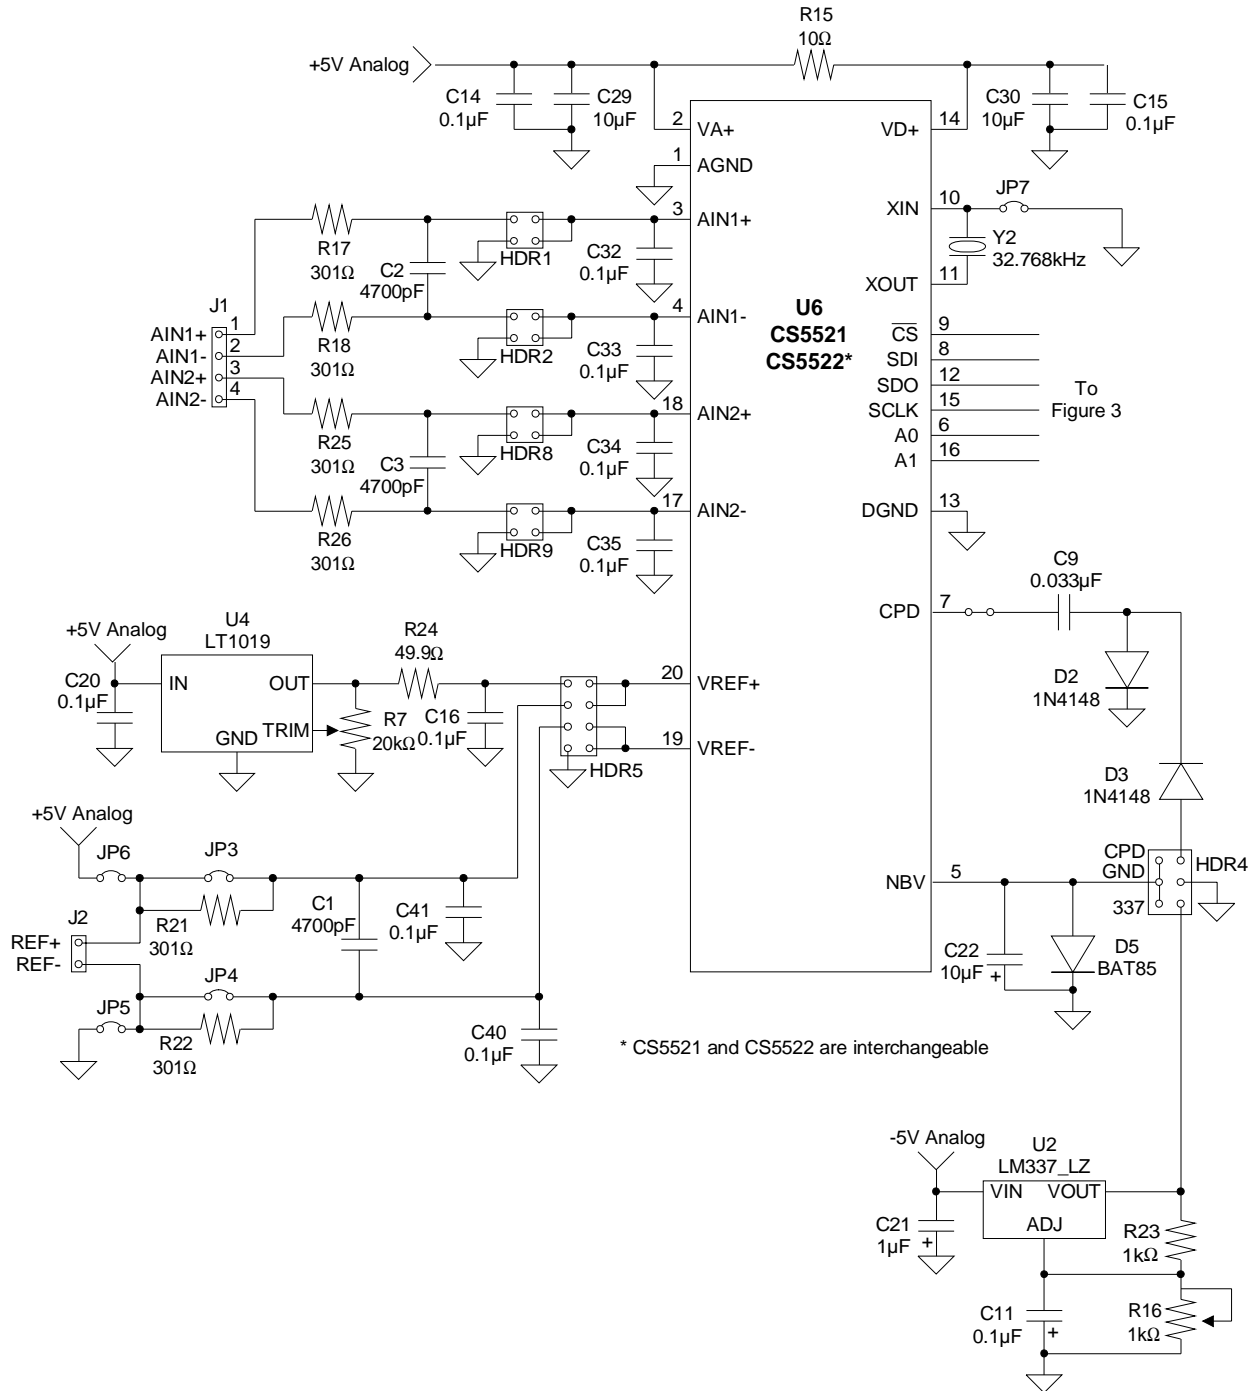

Figure 1. CS5522 Analog Section
- Figure 1. CS5522 Analog Section 5
The CS5521/22/23/24/28 is designed to digitize low level signals while operating from a 32.768 KHz crystal. As shown in Figures 1 and 2, a thermocouple can be connected to the converter's inputs via J1's AIN+ and AIN- inputs. Note, a simple RC network filters the thermocouple's output to